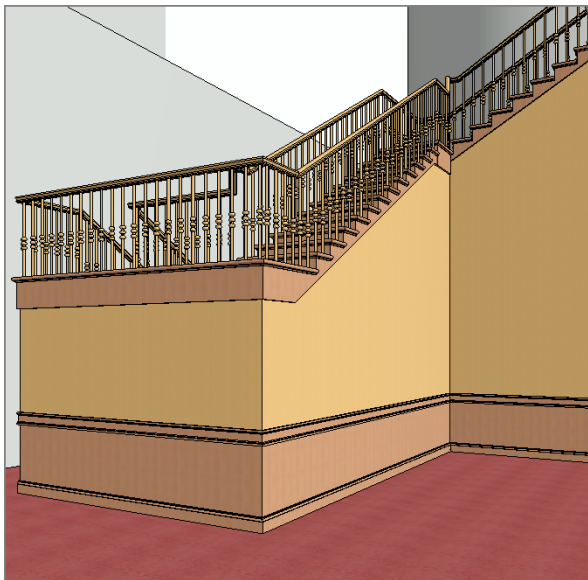

FIGURE 16.15: The finished walls should follow the profile of the stairs.
11. Repeat the procedure for each wall under the stairs. Remember to add elevations for each. Your finished walls should look like Figure 16.15.